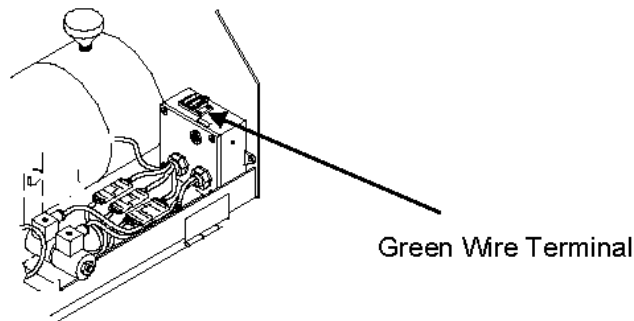

Figure 11
2. Run ladder to the upper stop. Position the latch release assembly (14) under side channel so latch plate slides past and depresses pin during operation. Tack latch release assembly blocks in place on channel. Notch floor bars to allow release pedal to extend through floor. Test latch release by operating ladder, then weld blocks.
3. With ladder fully latched, mount limit switch and limit switch bracket (13) on the rear of the ladder bracket upright angle. Route the 16/2 (4 wire connector) wire to limit switch. Connect white to common and black to NC as shown in wiring diagram. The limit switch should be within ¼" (6 mm) of the step when in the "UP" position for proper sensing. Refer to wiring diagram. When in the up position, the outer green wire terminal in the control box will provide a ground signal to the machine (figure 11).